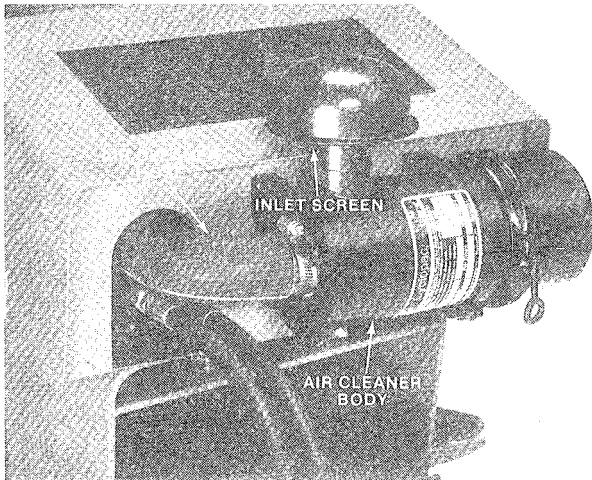

Figure 11
1. Make sure hose between air cleaner and carburetor is clamped securely in place. Replace the hose if it is cracked or punctured (Fig. 11).
2. Check air cleaner body for dents and other damage which could possibly cause an air leak. Replace a damaged air cleaner body (Fig. 11).
3. Be sure inlet hood is sealing around bottom of assembly (Fig. 11).
Visually inspect the inlet hood once a week; however, daily inspection is required when operating conditions are extremely dusty and dirty. Never allow dust to build up in screen in hood (Fig. 11).